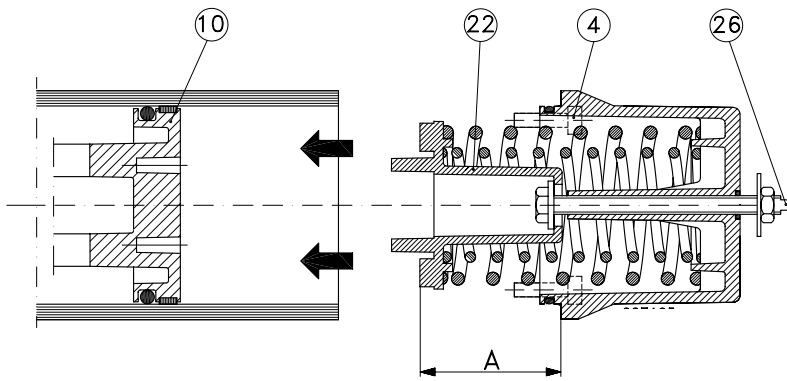

Fig. 3
5. Check that the spring is correctly pre-tensioned. The "A" measure in fig. 3 should be 137 mm.
6. The spring guide (22) is centered towards the piston with the aid of 2 pins.
7. The SR units must be turned so that one of the three support points lies between the bosses on the piston (10).
9. Put the screws (4) in place. When tightening the screws, the spring force is transmitted from the tensioning screw (26) to these screws. **Tightening torques according to page 6.**
10. The turning angle of the actuator is adjusted with the tensioning screws (26). **It is important that all screws are in contact with the piston in question.**